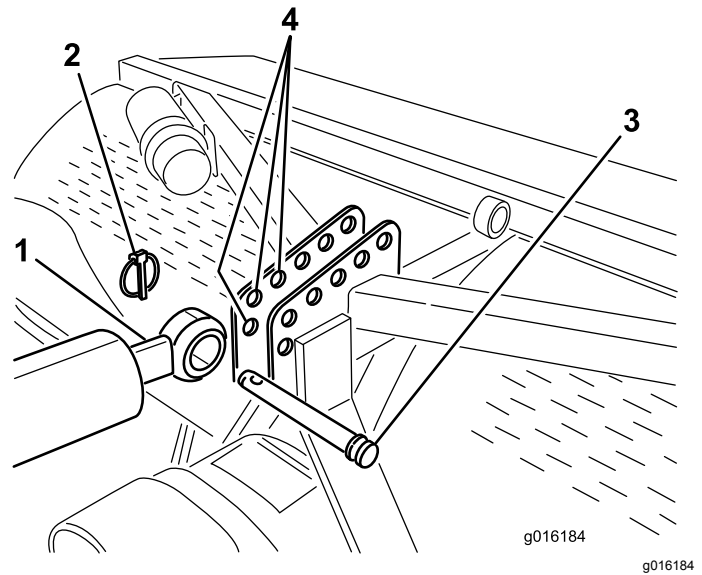
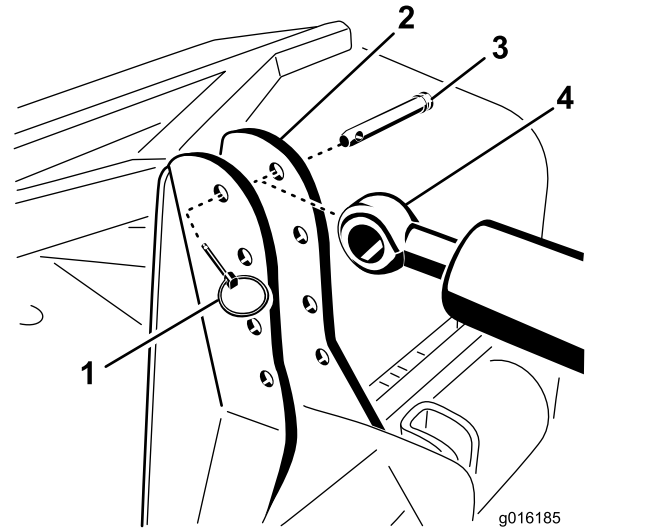

Figure 6
Figure 7
7. Secure the rod end of hydraulic top link to the most forward hole possible in the aerator bracket with link pin and lynch pin (Figure 6 or Figure 7).